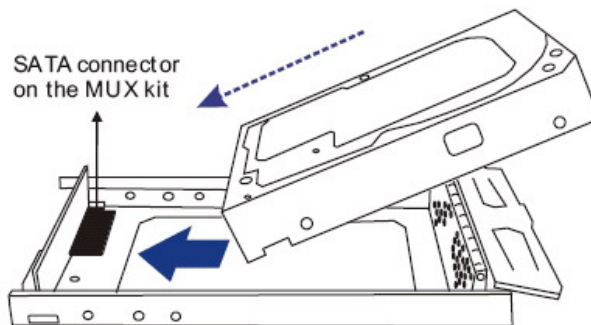

Figure 2-13: Installing a SATA Hard Drive
- Step 1. **Place the SATA hard drive into the drive tray.** (See *Figure 2-13*) Make sure the hard drive is oriented in such a way that the drive’s SATA connector is facing the back of the drive tray.
- Step 2. **Adjust the drive’s location** until the mounting holes in the drive canister are aligned with those on the hard drive. Secure the drive with four (4) supplied 6/32 flathead screws. (See *Figure 2-13*)